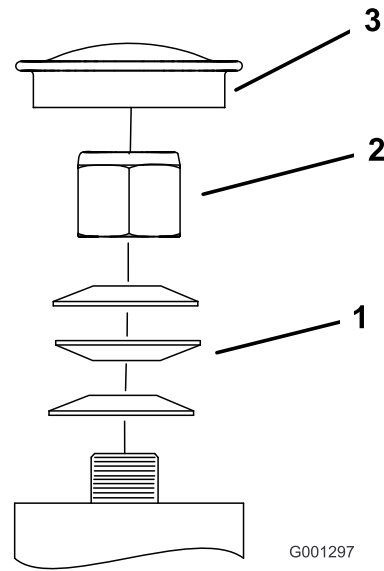

Figure 75
3. Remove the dust cap from caster and tighten the locknut (Figure 75).
4. Tighten the locknut until the spring washers are flat, and then back off a 1/4 turn to properly set the preload on the bearings (Figure 75).
Important: Make sure that the spring washers are installed correctly as shown in Figure 75.
5. Install the dust cap (Figure 75).